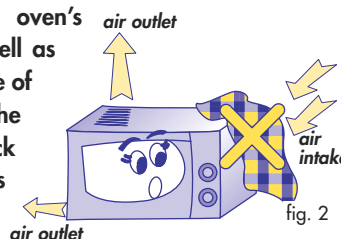

fig. 2
- 5) Do not block the air intake. In particular, do not set anything atop the oven and check to be certain that the air outlet slots (located above, under and in the back of the oven) are ALWAYS FREE from obstruction (see Figs. 2 and 3).